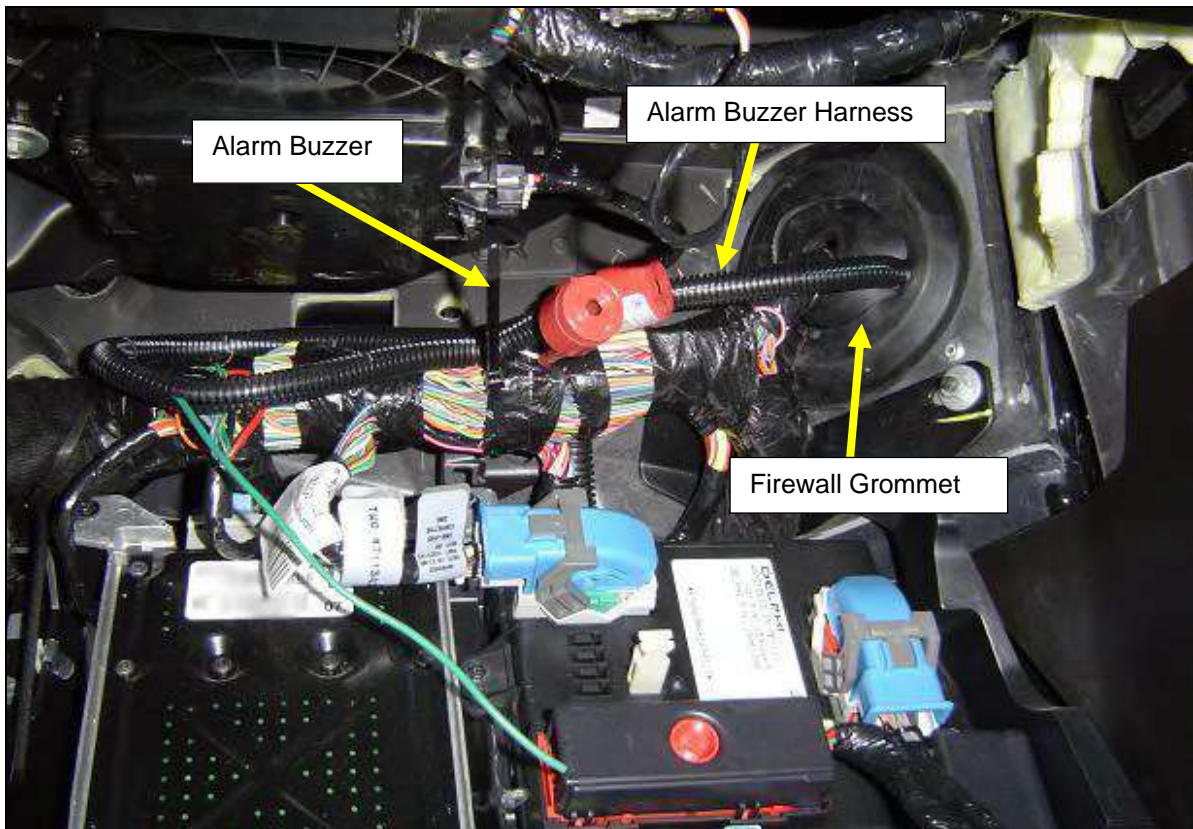

Figure 19
2. From the engine bay, remove the red ALARM buzzer from the STS harness and route this ALARM section of the harness through the hole in the firewall grommet and into the passenger's compartment as shown in **Figure 19**. Use a fish or coat hanger to feed the wires through the grommet.